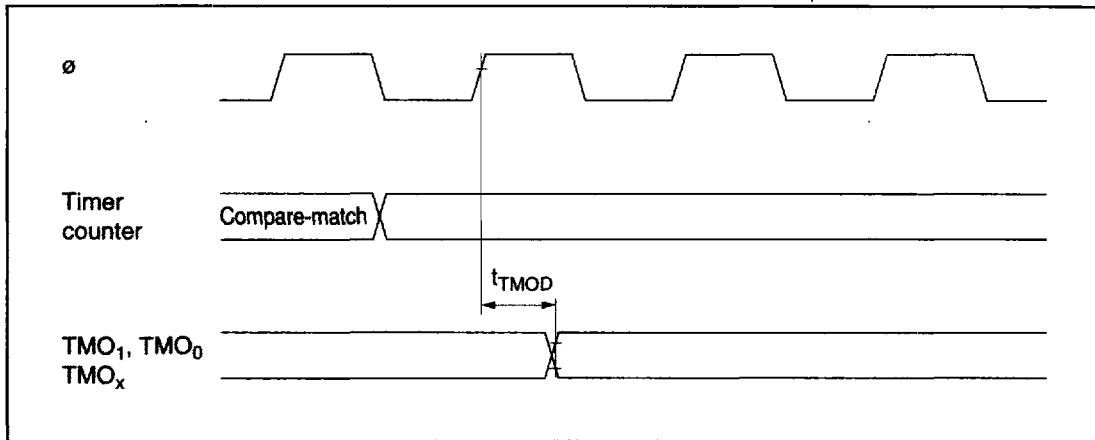

Figure 19-12 8-Bit Timer Output Timing
19.3.4 8-Bit Timer Timing	Figures 19-12 to 19-14